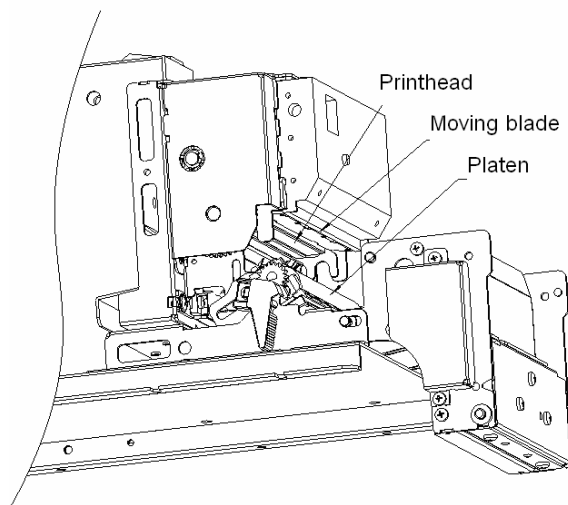

Fig. 5.1-3 Cleaning the Print head
4. Shown as in Fig.5.1-3, now you can view the printer from the downside of the print mechanism and find the Print head in the behind of the moving blade. Clean the Print head surface with alcohol cotton which should be twisted